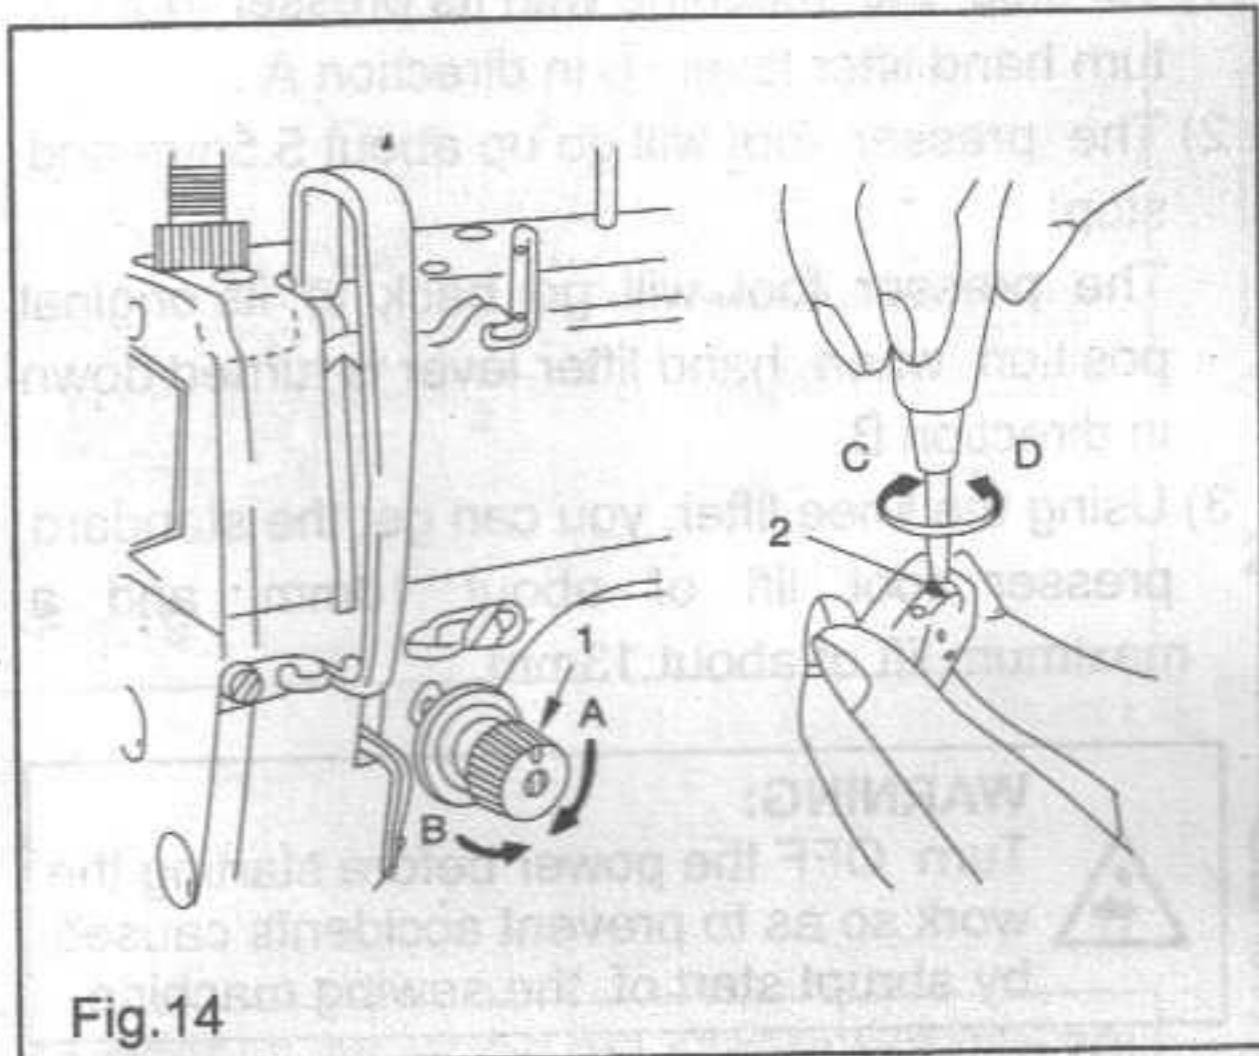

Fig.14
- 1) Loosen screws ② and ③ in feed eccentric cam ①. Move the feed eccentric cam in the direction of the arrow or opposite direction of the arrow, and firmly tighten the screws.
8. THREAD TENSION (Fig.14)